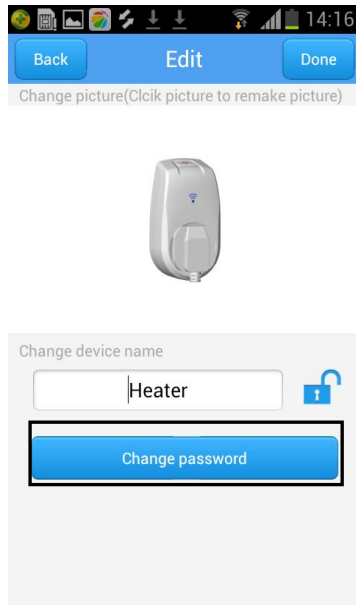

Figure 25
- Click "Change password" (see Figure 25), the remote password of the device can